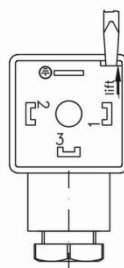

Fig. 8
- ↪ Open the core ③ of the cable socket ② with a screwdriver or similar tool (→ Fig. 8).